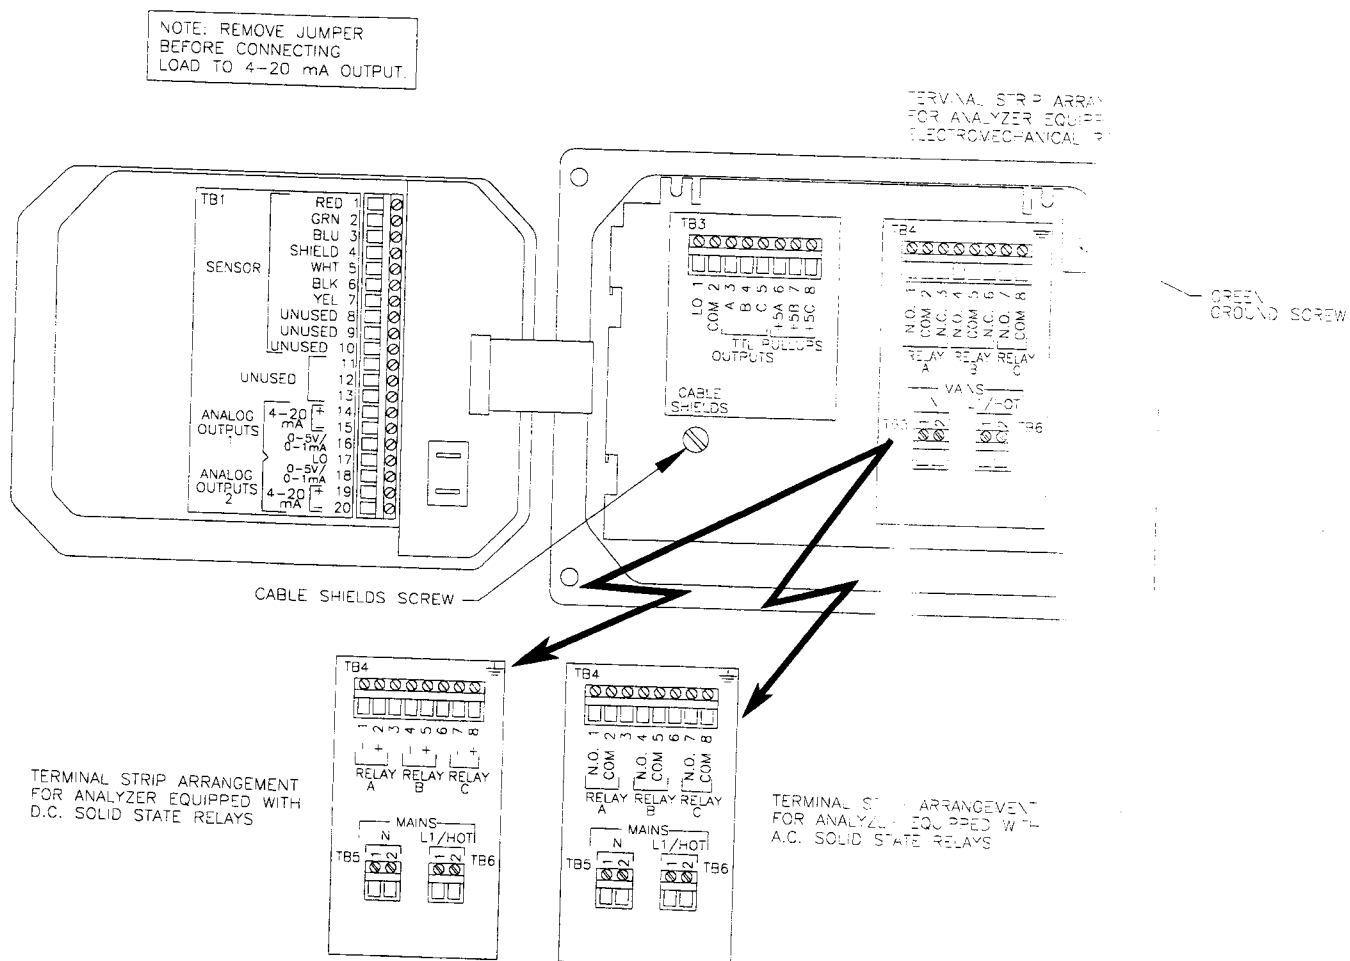

FIGURE 2-3 Analyzer Terminal Strip Designations
To access terminal strips for electrical connections, open the left-hinged enclosure door by unscrewing the four fasteners. Figure 2-3 shows the terminal strip terminal designations (on backside of door analyzer enclosure).
Refer to Figure 2-3 and connect the D.O. sensor:
Wiring Tip! Use high quality, shielded instrumentation cable for connecting the analog outputs. For best electromagnetic noise immunity, connect the cable shield to the "cable shields screw" shown in Figure 2-3.
Wiring Tip! Use high quality, shielded instrumentation cable for connecting the TTL outputs. For best electro-magnetic noise immunity, connect the cable shield to the "cable shields screw" shown in Figure 2-3.
1. Connect the ground wire to the analyzer green ground screw located to the right of TB4 (see Figure 2-3).